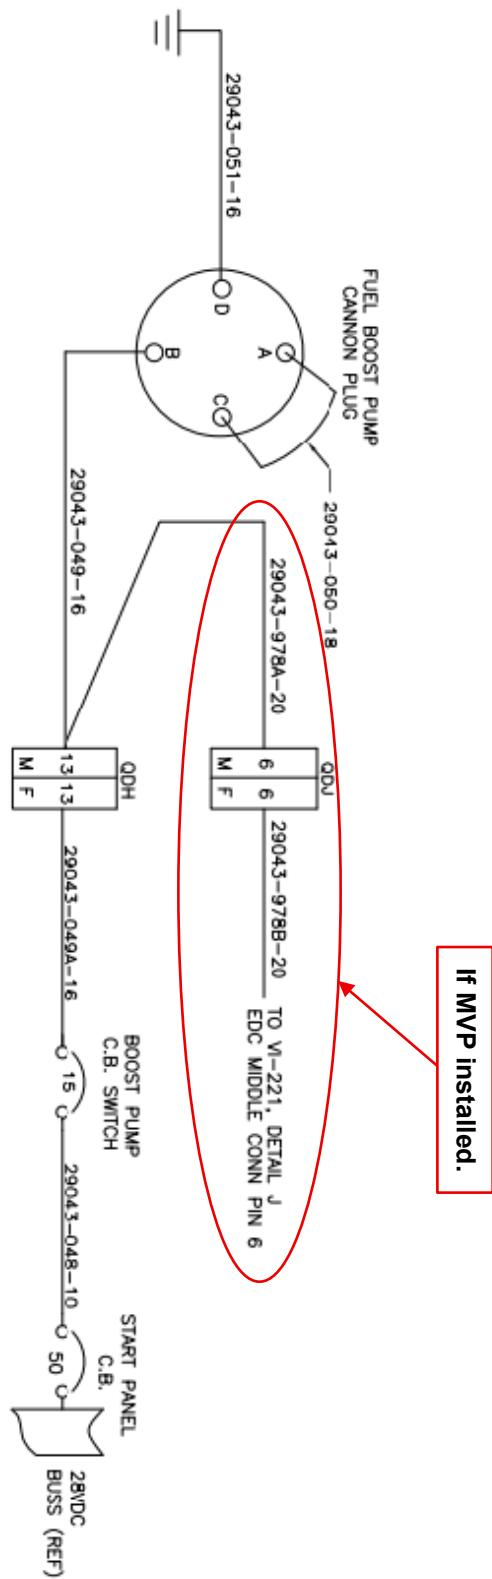

Figure 7
20. Incorporate auxiliary pump connector wires into main wire harness. (Reference Figure 7)
23. Reference wiring diagram to properly route and terminate, following best practices for wiring installation. (Reference Figure 7)